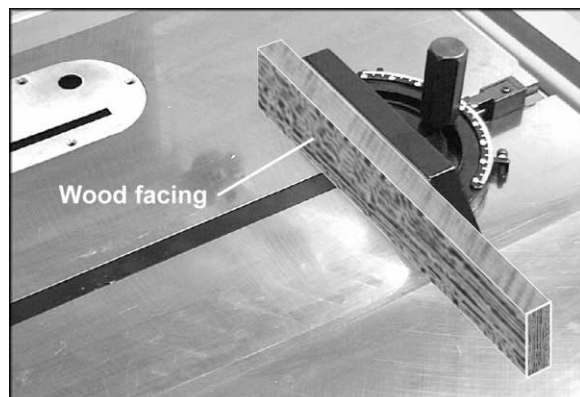

Figure 25
6. For increased safety in crosscutting, use an auxiliary wood facing attached to the miter gauge using the holes provided in the gauge, Figure 25.